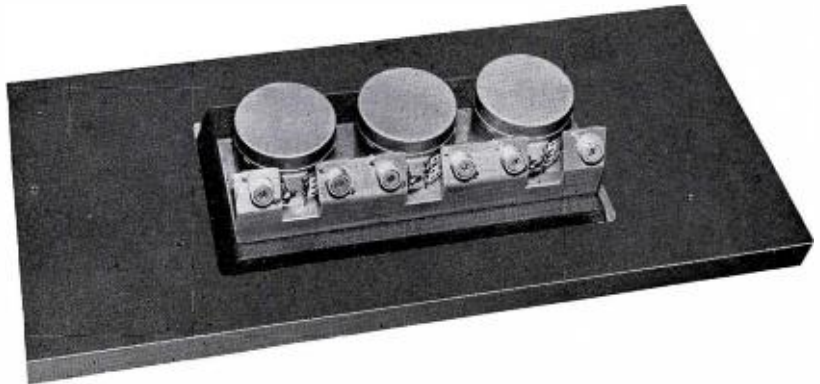

FIG. 10. Bottom view of panel showing Daven pads which are used as trimmers to correct minor color differences between cameras.
8. The insertion of calibrated video attenuator pads between the processing amplifier and the colorplexer makes possible a final precise vernier adjustment of white balance without causing pedestal or shading shift. These pads are also useful for introducing deliberate predetermined color shifts of known amplitude to compensate for minor color differences between cameras or for special effects. The pads are thus used as true trimmers to get identical operation between cameras. Daven pads having 20 steps at 0.1 db per step are available for this service. See Fig. 10.